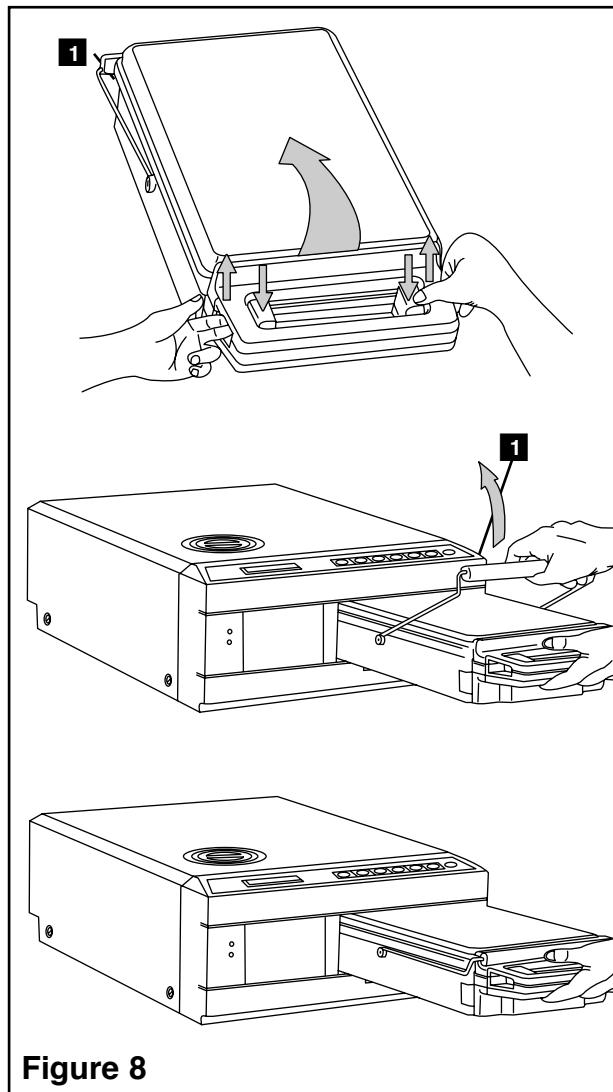

Figure 8
1. Hold the cassette handle in one hand and the carry handle in the other as shown in Figure 8.